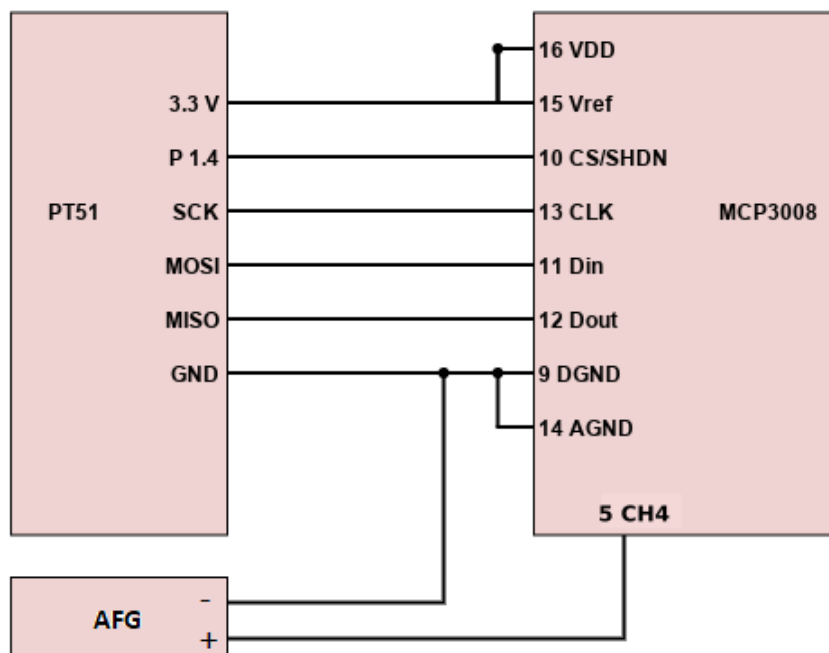

Figure 2: Pt51 interfacing with AFG and ADC
- Make the connections as shown in Figure 2. Note that the output of the AFG is connected to CH4 of the ADC.